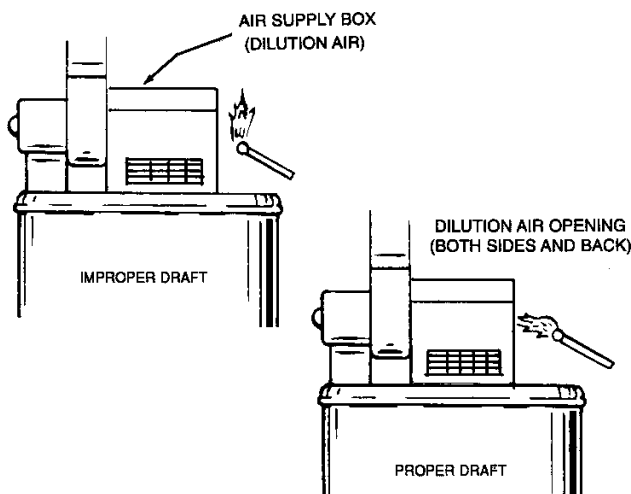

FIGURE 11
- "CHECKING THE DRAFT." Operate the water heater for several minutes and check to see if it is venting properly by passing a lit match or paper near the opening of the Air Supply Box. If the draft is proper, the match flame will be drawn into the Air Supply Box (fig 11). If not, the combustion products will tend to extinguish the flame. If an improper draft exists, do not operate the water heater until proper adjustments or repairs are made to provide adequate draft through the gas vent.